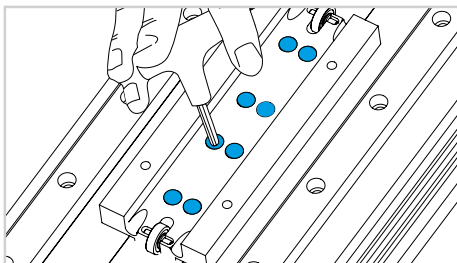

Fig. 8
- 9) Slide the top carriage in order to have access to the inner part. Untight the screws and lift the part which has been released (Fig.8)